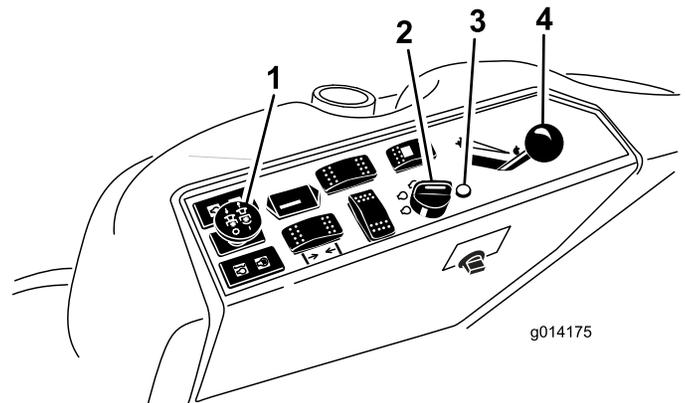

Figure 15
4. Move the power-takeoff (PTO) switch to the OFF position (Figure 15).
5. Move the throttle lever midway between the FAST and SLOW positions (Figure 15).